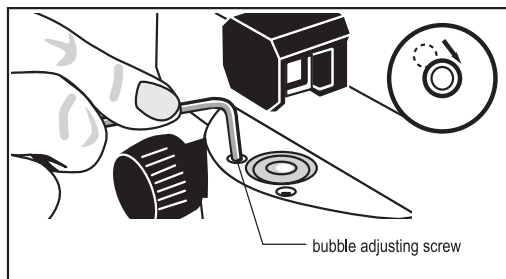

fig.9
2. Use align wrench turn the two adjustment screws till the air bubble moving to the center of circular bubble vial.(see fig.9)